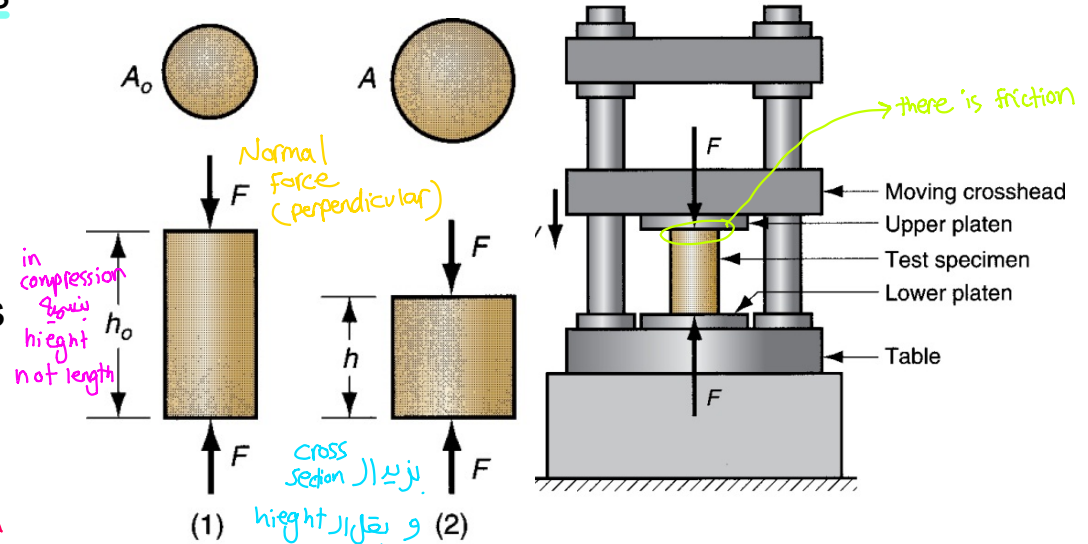

Fig. 3-8: Compression test: (a) compression force applied to test specimen in (1) and (2) resulting change in height; and (b) setup of the test.
- **Compression test:** a test that applies a load that squeezes a cylindrical specimen between two platens (see fig. 3-8). As the specimen is compressed, its height is reduced and its cross-sectional area is increased. The engineering stress is defined in the same way as in the tensile test; i.e.,